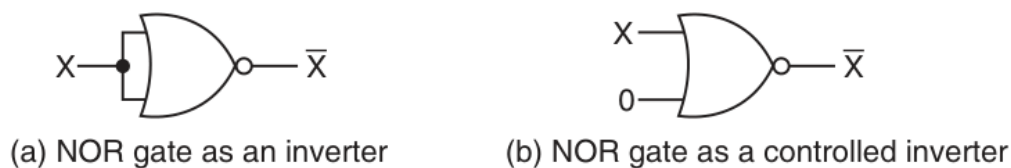

Figure 4.17 NOR gate as an inverter.
- Realization of NOT using NOR (Kumar, Figure 4.17):**